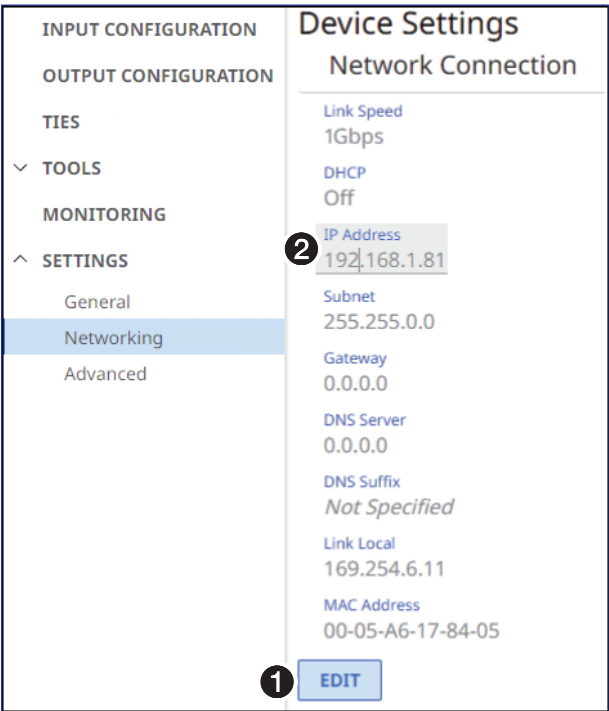

Figure 6. Network Connection Pane
2. Click the **Network Connection** drop-down list (**2**). The Network Connection pane opens (see figure 6), showing protected views of the network connection settings.
3. To change the settings, click **Edit** (see figure 6, **1**). The Edit button changes to Save.